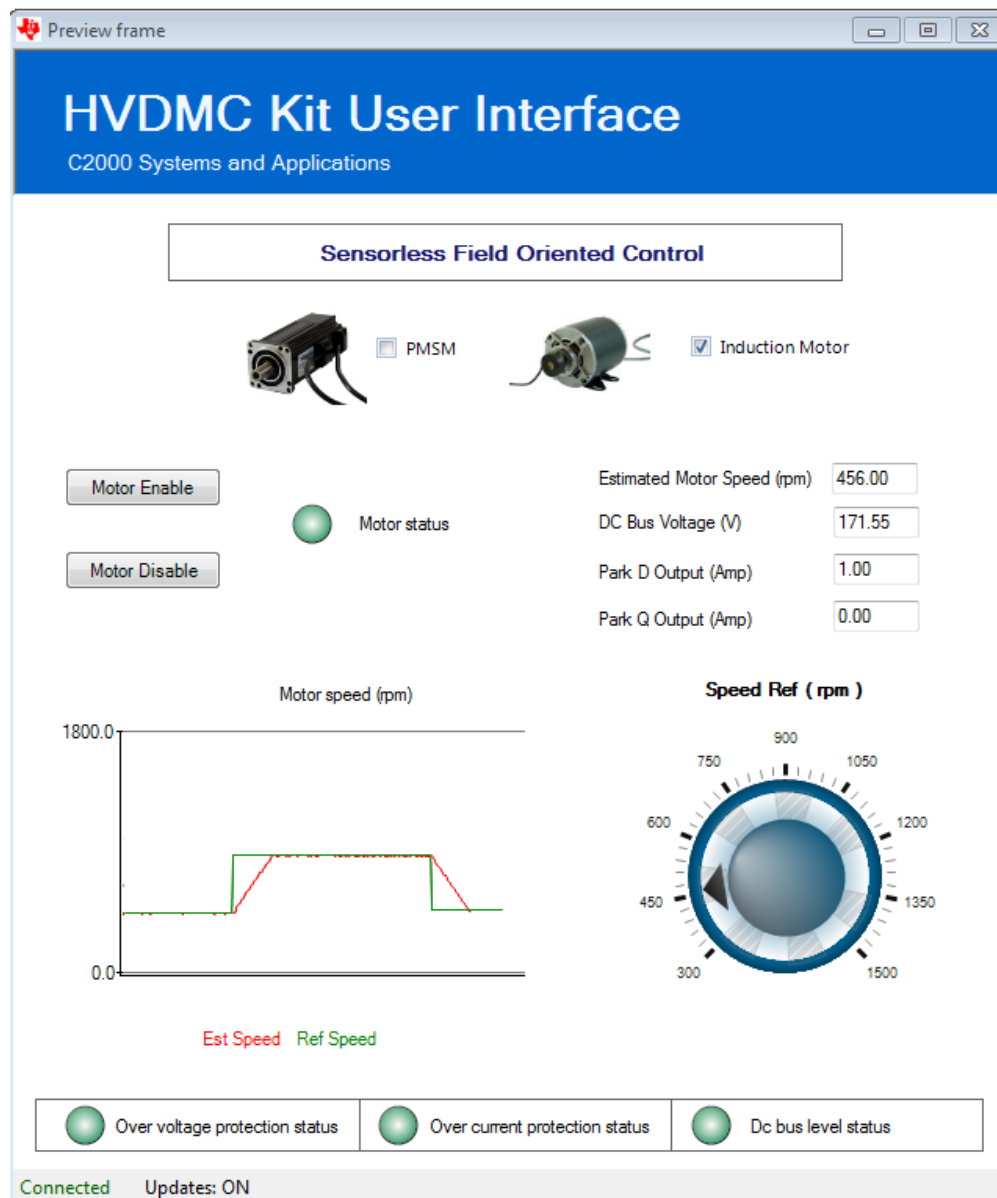

Fig4: GUI Startup for PM and ACI motors
- 2) Browse to and double click on *HVMTRPFCKIT-PM-ACI-GUI.exe* The GUI window should pop up (Fig 4). If this is the first time you would have to go through a license agreement. The GUI is divided into the following sections